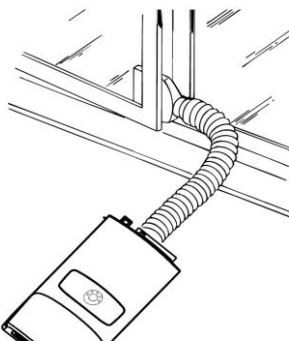

Fig. 2
- 2) Install the device near the window. Adjust the length of the hose to reach the window. Make sure the air exhaust hose is unobstructed. Open the window or French window slightly and position the outlet (fig. 2)